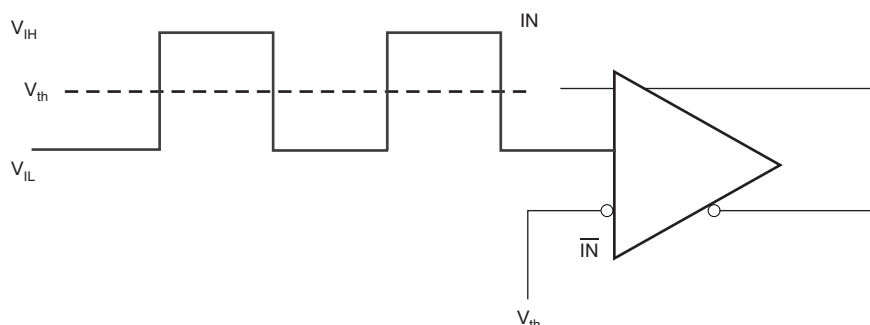
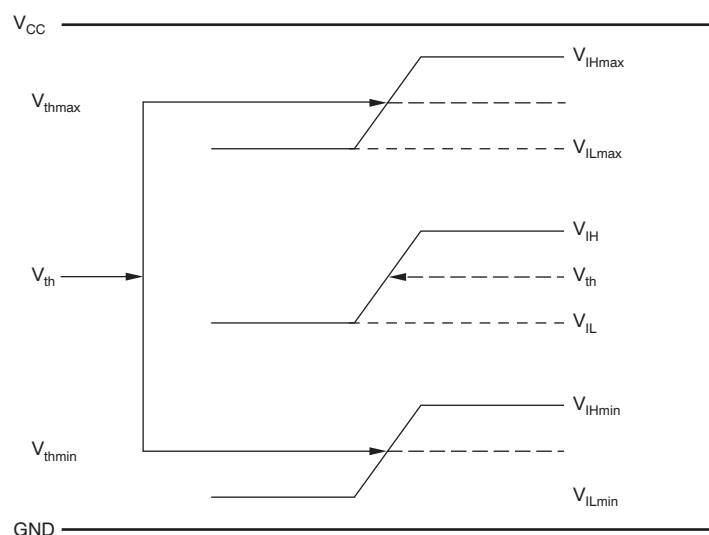
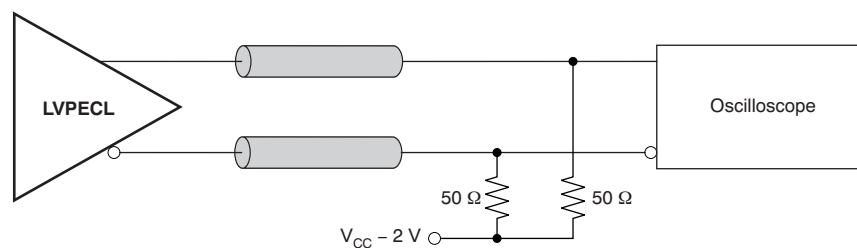
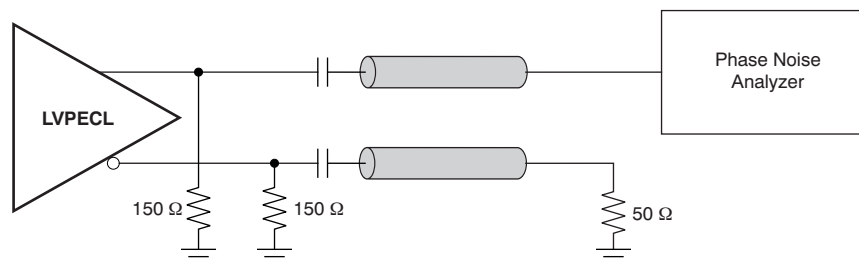

Figure 3. DC-Coupled LVCMOS Input During Device Test
Figure 4. V_{th} Variation over LVCMOS Levels
Figure 8. LVPECL Output DC Configuration During Device Test
Figure 9. LVPECL Output AC Configuration During Device Test
(1) Figure 3 and Figure 4 show dc test setup.
(1) Figure 8 and Figure 9 show dc and ac test setup.
This section describes the function of each block for the CDCLVP2104. Figure 3 through Figure 9 illustrate how the device should be setup for a variety of test configurations.